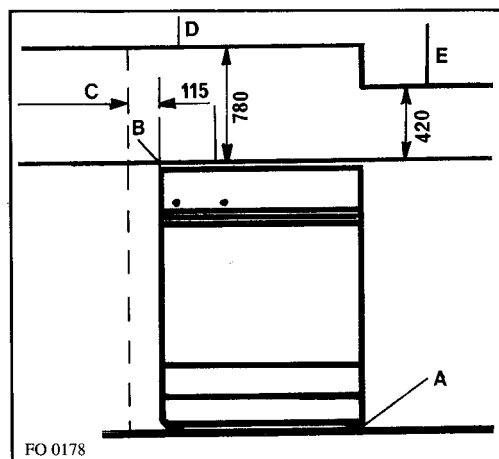

Fig. 1
1. Positioning the Appliance (Fig. 1)